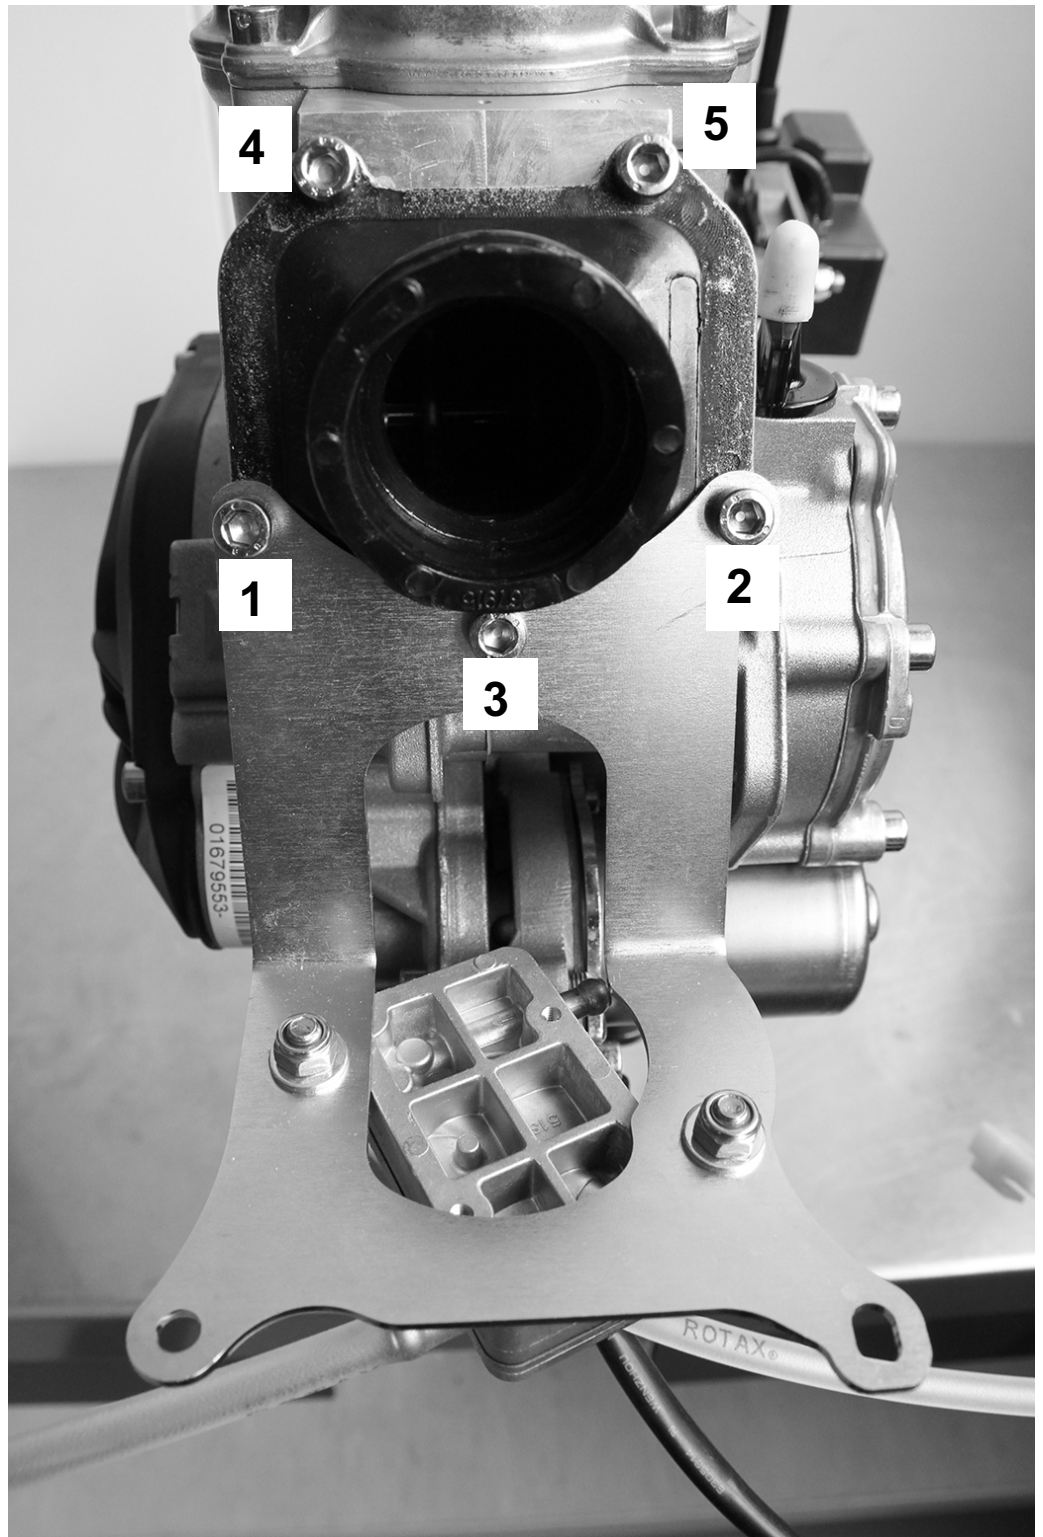

Fig. 12 (K00313)
- ➔ Loosen the Allen screws M6 (Pos. 1,2,3 in Fig. 12) in the indicated order according to Fig. 12.
- ➔ Loosen the residual Allen screws M6 (Pos. 4, 5 in Fig. 12) and remove carburetor flange.